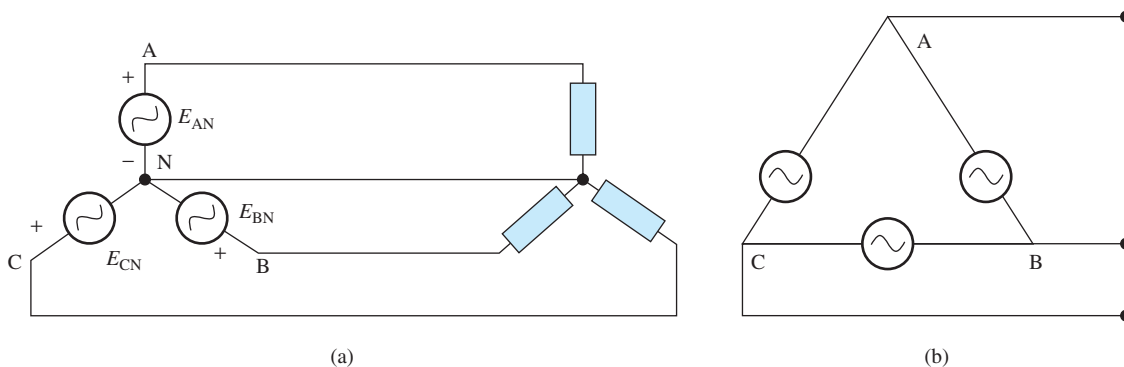

FIGURE 9.3 (a) Star-connected generator feeds a star (Y-connected) load. (b) Star-connected generator.
Figure 9.3(a) represents a simple three-phase circuit. Usually, generator coils are connected in star (Y) to avoid power loss and lower production costs. As explained in this section, generators are rarely Δ -connected [see Figure 9.3(b)]. Note that the Δ -shaped wiring creates a loop that allows the circulation of the current. In this formation, if the phase voltages of each Δ -connected side are not perfectly balanced, for example, due to the phase-winding imbalance across these voltages, there will be a net voltage, and consequently a circulating current around the Δ -shaped wiring. This results in a power loss. Moreover, the phase voltages are lower in a Y-connected generator, and thus, less insulation is required to maintain safe transmission of power through the transmission lines. This leads to lower cost of transmission lines and cables. The next subsection explains the notion of star and Δ connection of generators and loads.
At power generation stations, three sinusoidal voltages are generated having the same amplitude but displaced in phase by 120° . This is called a balanced voltage source, as shown in Figure 9.3. The point at which all coils are connected is called the neutral point, N.